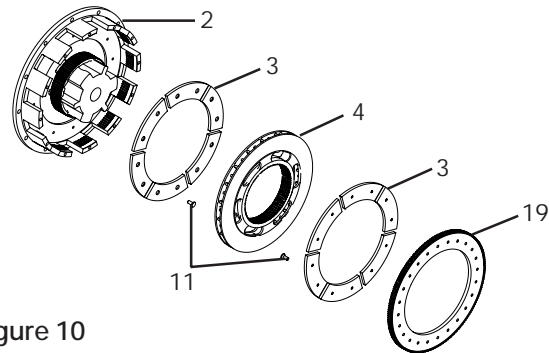
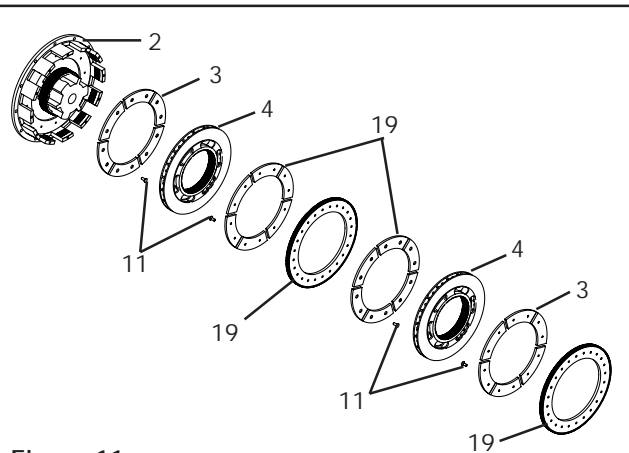

Figure 10
Figure 11
4. Remove the Friction Plates (Item 19) and Drive Discs (Item 4) (See Figure 10 for the DFB and Figure 11 for the QFB).
**NOTE:** The DFB contains one Drive Disc (Item 4) and one Friction Plate (Item 19) (See Figure 10). The QFB contains two Drive Discs (Item 4) and two Friction Plates (Item 19) (See Figure 11).
5. Remove the old Flat Head Screws (Item 11) securing the old Friction Facings (Item 3) to the Friction Plates (Item 19) (See Figure 10 for the DFB and Figure 11 for the QFB).
6. Apply a drop of Loctite® 242 to the threads of the new Flat Head Screws (Item 11) and secure the new Friction Facings (Item 3) to the Friction Plates (Item 19) (See Figure 10 for the DFB and Figure 11 for the QFB).
8. Remove the old Flat Head Screws (Item 11) securing the old Friction Facings (Item 3) to the Housing (Item 2) (See Figure 10 for the DFB and Figure 11 for the QFB).
9. Apply a drop of Loctite® 242 to the threads of the new Flat Head Screws (Item 11) and secure the new Friction Facings (Item 3) to the Housing (Item 2) (See Figure 10 for the DFB and Figure 11 for the QFB).